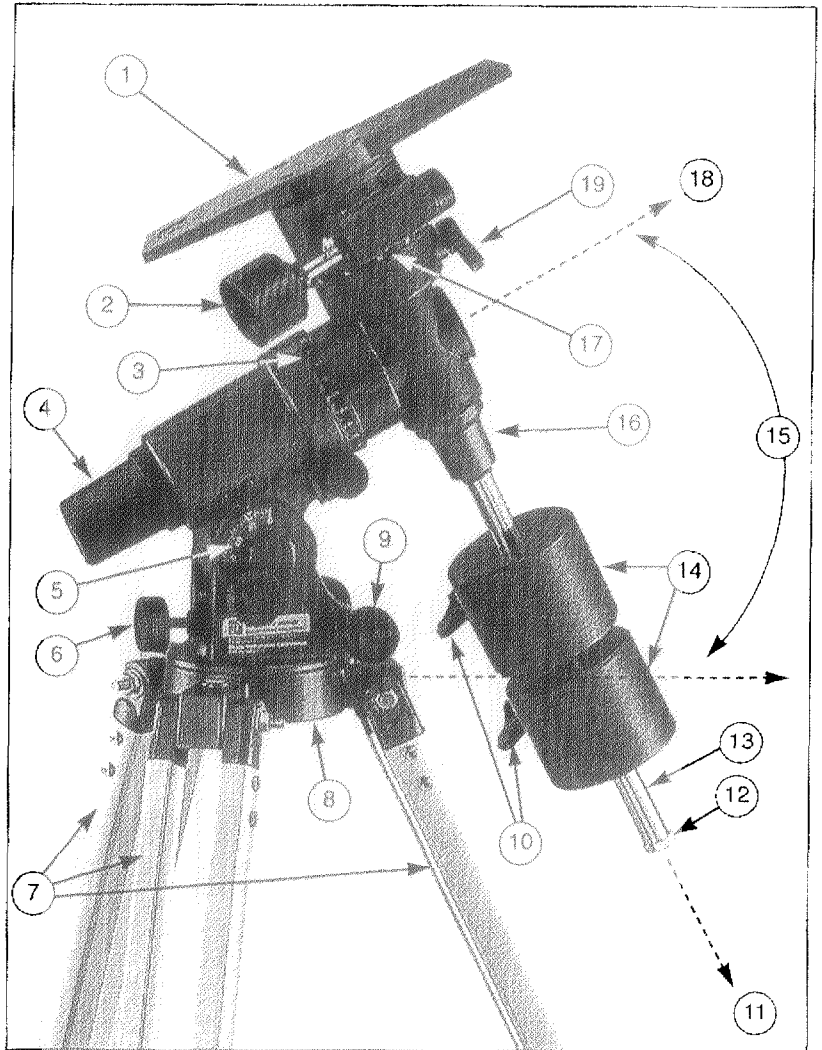

Fig. 1: LXDM 500B Equatorial Mount
Captions for Fig. 1
At the end of the counterweight rod (3), Fig. 5, unscrew the counterweight safety stop (12), Fig. 1. Slide one counterweight onto the rod and lock in place by tightening its black counterweight lock screw (10), Fig. 1. For the LXD 500B mount, slide the second counterweight into place and tighten its lock screw. When the counterweight(s) is secure, replace the counterweight safety stop. **Be certain that the counterweight safety stop is always securely in place.**
1. Loosen the R.A. lock lever (3), Fig. 6, by rotating the lever counterclockwise until it stops. The Optical Tube Assembly now rotates freely about the Polar Axis (18), Fig. 1. Rotate the telescope so that the counterweight rod is parallel to the ground (horizontal).
2. Loosen the counterweight lock screw(s) (10), Fig. 1, and slide the counterweight(s) along the rod until the telescope remains in one position without tending to drift in either direction. Re-tighten the counterweight lock screw(s) and the R.A. lock lever (3), Fig. 6.
3. Loosen the Dec lock lever (2), Fig. 6, by rotating the lever counterclockwise until it stops. The Optical Tube Assembly now rotates freely about the Declination Axis (11), Fig. 1. Rotate the telescope so that the tube is parallel to the ground (horizontal).
Note: The Fine Azimuth Adjustment Knobs (9), Fig. 1, are generally only utilized during the precise polar alignment procedure described in the instructions accompanying the #812 Polar Alignment Finder.